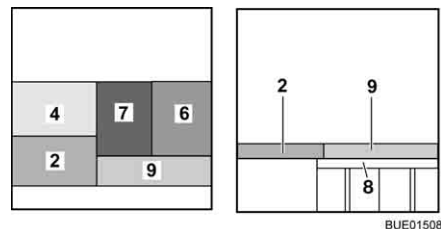

Fig. 146 After conversion
- Place the seat cushion (Fig. 146,7) in the centre.
- Insert the back cushion (Fig. 146,6) between the seat cushion (Fig. 146,7) and the wall.
- Place the additional cushion (Fig. 146,9) on the bed widening.
- Place the back cushion (Fig. 146,6) between the seat cushion and the wall.